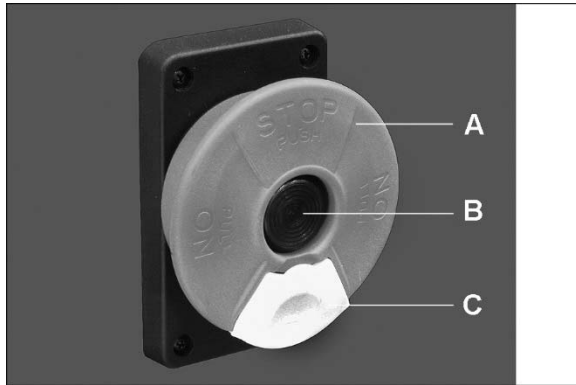

Figure 6
Pull out on switch (A, Figure 6) to start machine. Green power indicator lamp (B) will illuminate.
The safety key (C, Figure 6) prevents unauthorized use of machine. Remove key to deactivate switch. Key must be reinserted to start machine – press until it snaps back in.